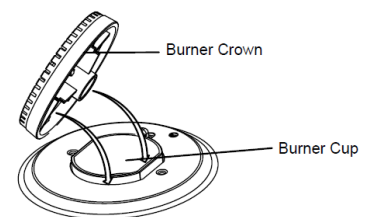

Figure 2
### Removing The Burners (Refer Figure 2)
- To do this, ensure that the 2 ribs on either side of the spark plug hole are positioned into the 2 slots on the burner cup. (See figure 2).
- Open the lever A completely on the left and right hinges (fig. 2)
- Gently close the door (fig. 3) until left and right hinge levers A (fig. 2) are hooked to part B (fig. 2) of the door
- Triple Glazed oven door: Remove the top frame (G) by unscrewing the 2 screws, located on the left and right sides
- Gently pull out the inner pane of glass (fig. 2). Also remove the centre pane of door glass, not shown here.